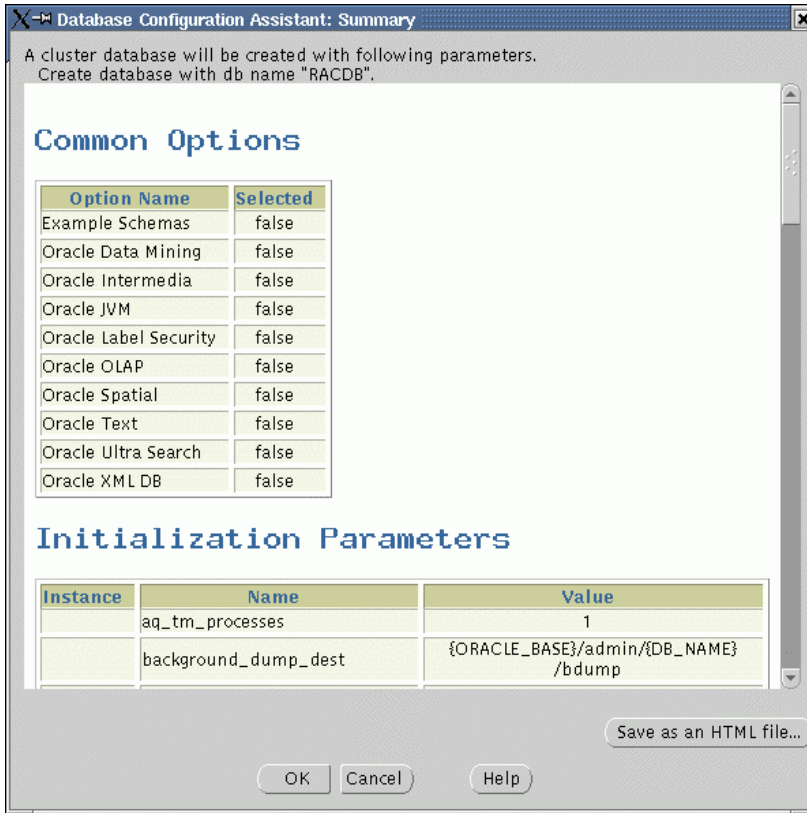

Figure 87. dbca summary
18. A summary screen is displayed (Figure 87). Use the scroll bar on the right hand side to view all information, then click **OK** to continue.